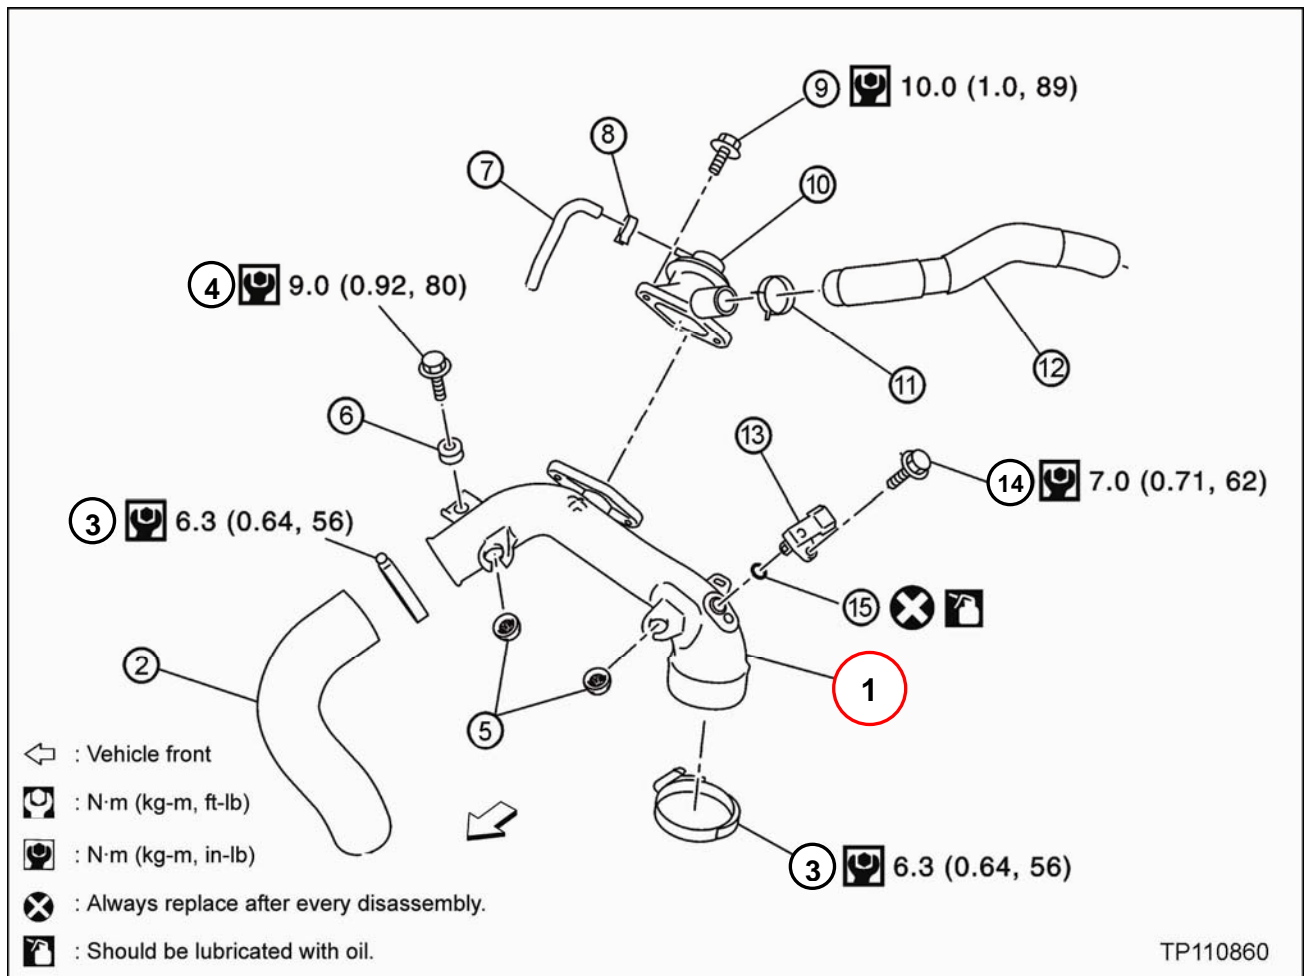

Figure 5
Replace Air Inlet Tube 1 (#1 in Figure 5)
NOTE: Use Figure 5 as a reference while performing steps 1-8 for air inlet tube replacement.
- Make sure to use the correct torque for bolts and clamps (see Figure 5).